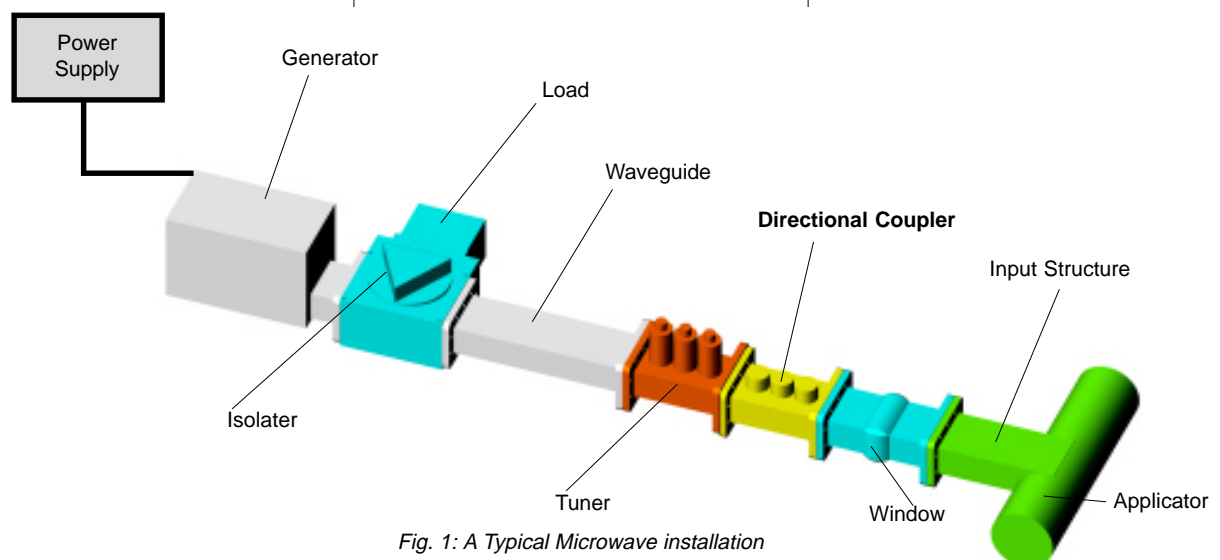

Fig. 1: A Typical Microwave installation
(figure 1) the directional coupler is often installed either
- between the tuner and the applicator (which is the case in fig 1)